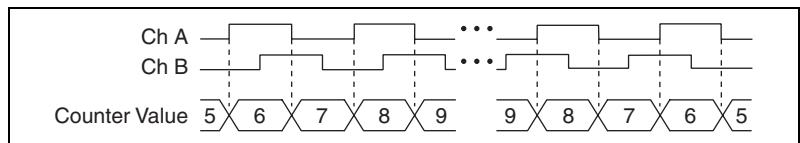

Figure 7-15. X2 Encoding
- **X2 Encoding**—The same behavior holds for X2 encoding except the counter increments or decrements on each edge of channel A, depending on which channel leads the other. Each cycle results in two increments or decrements, as shown in Figure 7-15.